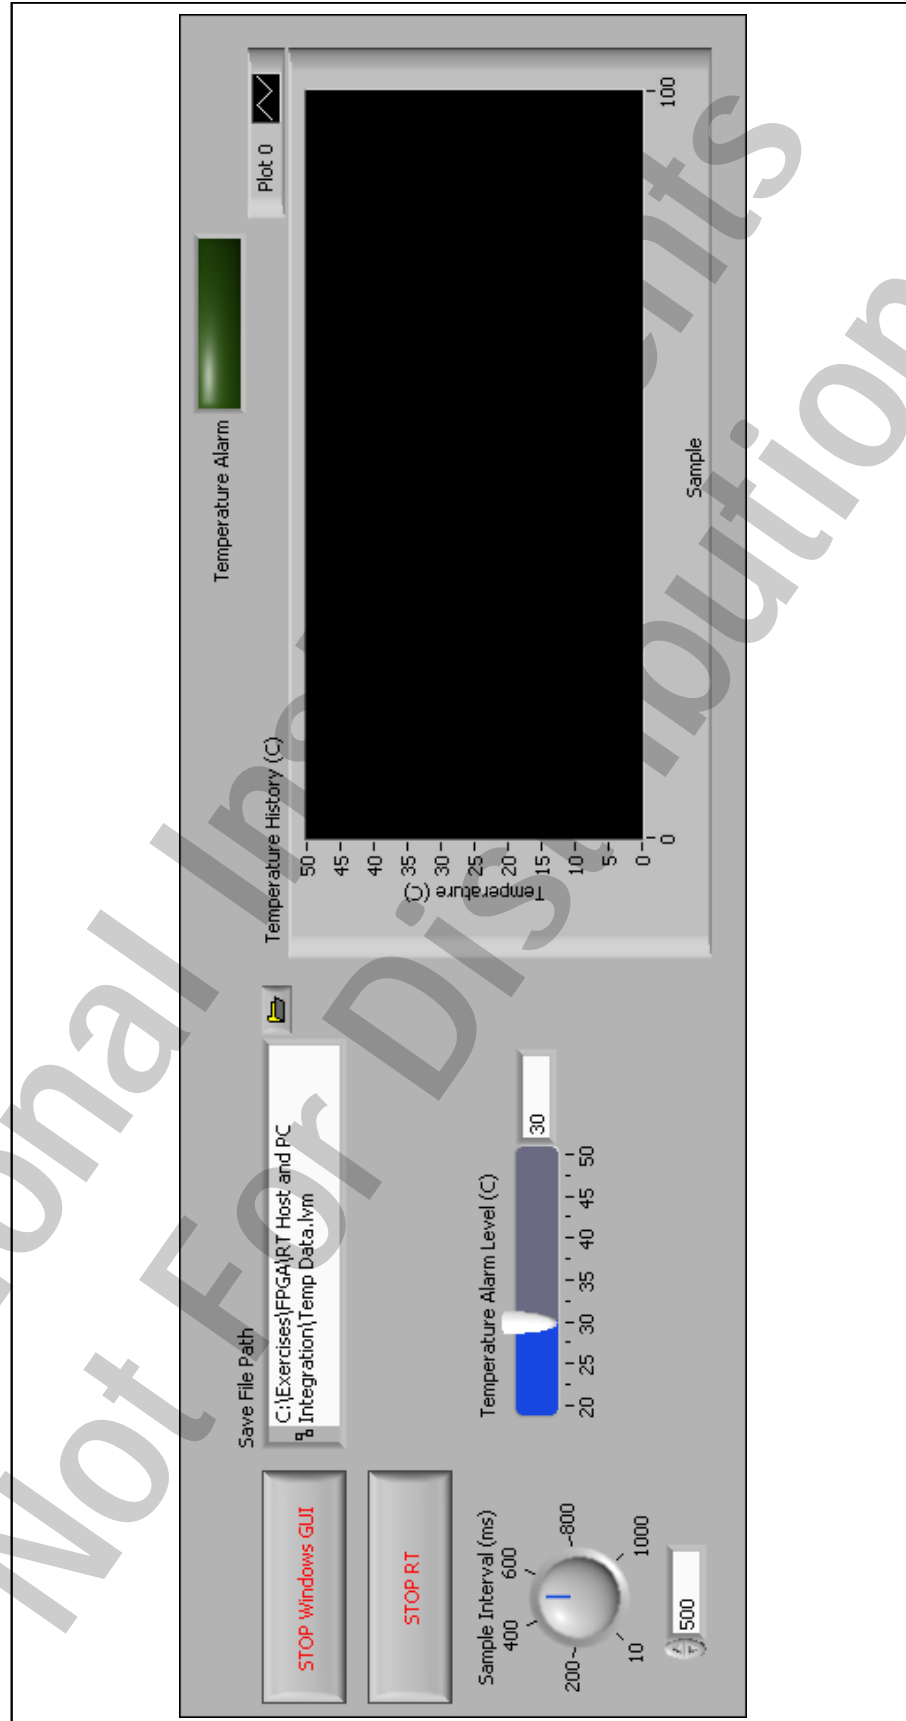

Figure 8-7. Temperature Monitor PC VI Front Panel
- ☐ Arrange the controls and indicators on the front panel as shown in Figure 8-7.